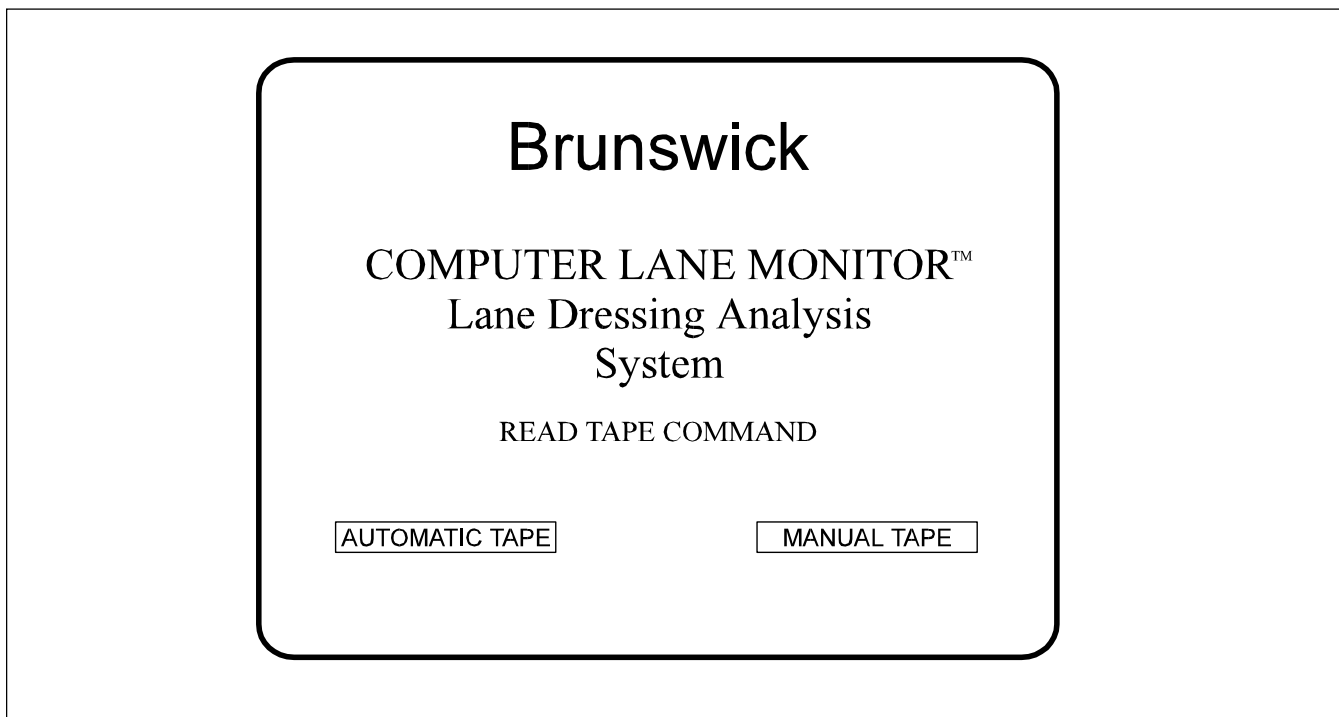

Figure 19 - "Read Tape" Options
1. Select the "Read Tape" option to read and display the value of a new tape sample. There are two options with the "Read Tape" menu. Use the "Automatic" option if you have the proper lane edge marker explained on page 12. Otherwise, use the "Manual" option. The "AUTOMATIC" option will automatically control the tape drive roller motor to position the tape and advance it while it reads the entire tape length. The "MANUAL" option is explained in the next instruction section. Choose the desired option from the screen shown in Figure 19.